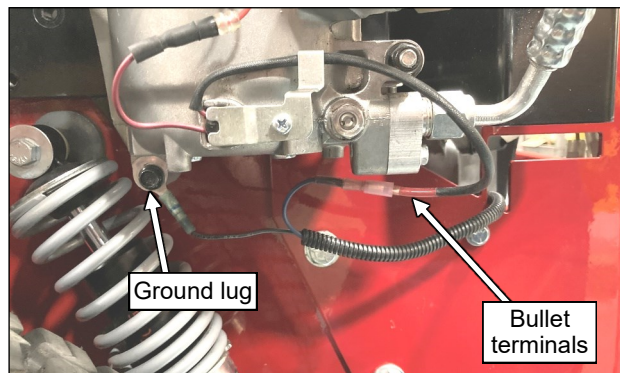

Fig. 6.7 (Compressor connections)
- 6.7 See Fig. 6.7. Connect the bullet terminal from the harness to the compressor, and attach the ground lug to the bolt at the bottom-front of the compressor.